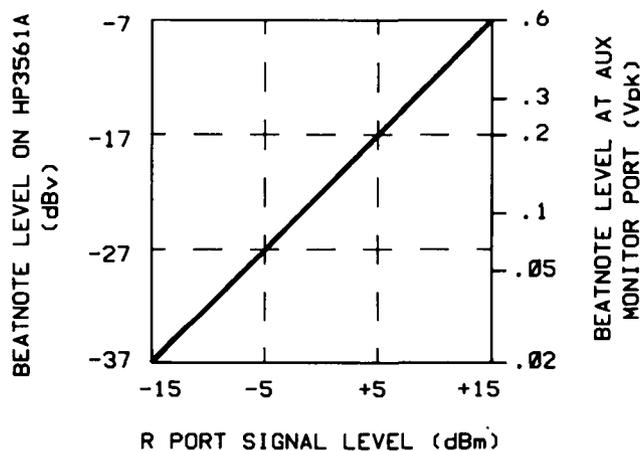

Figure 5-6. Beatnote Level Relative to the Signal Level at the R Port.
- Decrease the PLL bandwidth to 1/10 the VCO's modulation bandwidth by decreasing the Peak Tuning Range (PTR) for the measurement. Use Figure 5-6 to determine the PTR required. The PTR can be reduced by decreasing the Tuning Voltage Range value entered. Divide the required PTR by the VCO's Tuning Constant to determine the appropriate Voltage Tuning Range to enter. (Keep in mind that reducing the PTR limits the HP 3048A's Frequency Drift Tracking Range for the measurement. For further information about changing the PTR, refer to *Changing the PTR* in Chapter 3 of this manual.)
1. Observe the beatnote on the time record of the HP 3561A or on an oscilloscope connected to the AUX MONITOR port of the HP 11848A. Verify that the beatnote amplitude is correct for the signal level at the R input port on the HP 11848A. Figure 5-6 shows the relationship between the beatnote level and the level at the R input port.